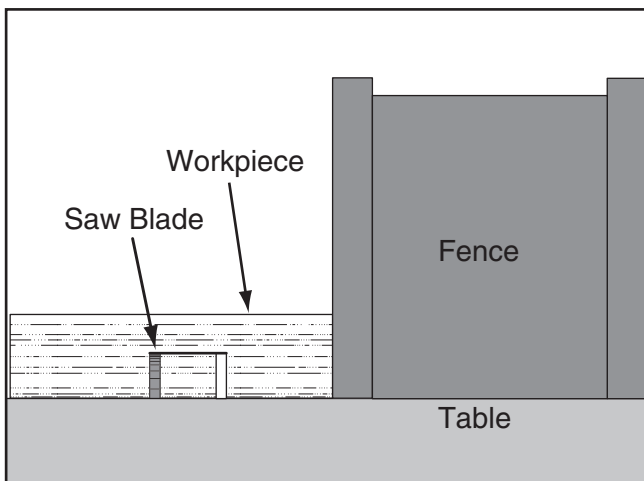

Figure 49. Single-blade dado second cut.
- Re-adjust the fence so the blade is aligned with the other edge of the intended dado channel (**Figure 49**).